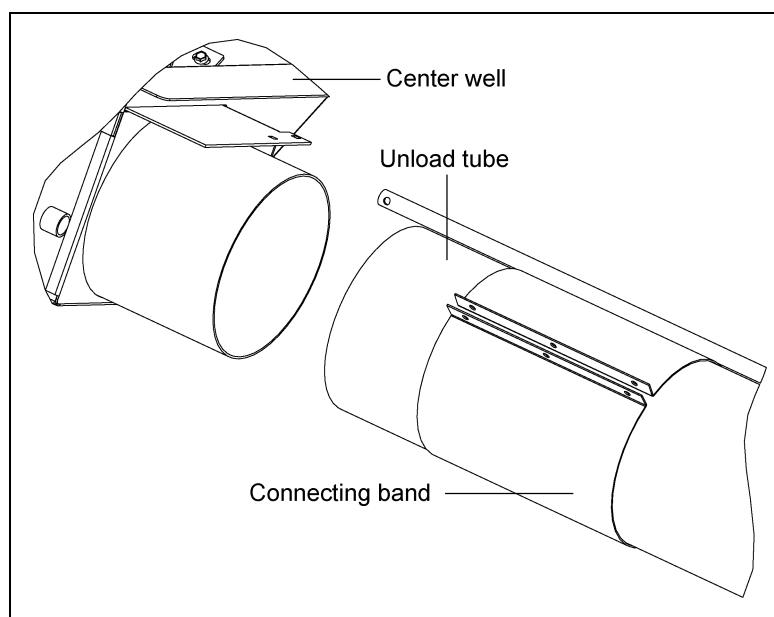

Figure 4F
3. Place the connecting band onto the end of the unload tube closest to the center well. (See Figure 4F.)